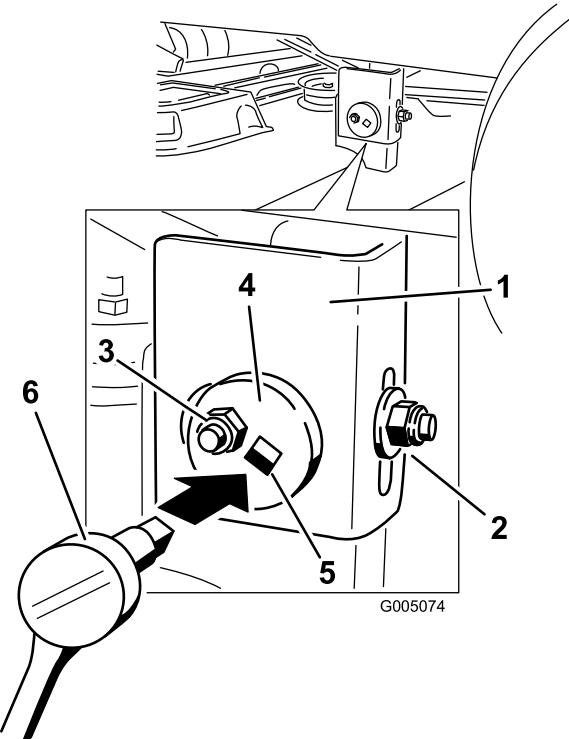

Figure 42
7. Move to the left side of the machine. Loosen, but do not remove, the rear locking nut on the hanger bracket (Figure 42).
8. Loosen the side locking nut on the hanger bracket just enough to allow the eccentric plate to be adjusted (Figure 42). Use a 3/8 inch drive extension on a socket wrench to manipulate the eccentric plate. Use the wrench to reposition the height of the mower deck and adjust to the desired height.
9. Stop the deck at the adjusted position and tighten the side locking nut on the hanger bracket to hold the new position (Figure 42). Tighten the rear locking nut on the hanger bracket.